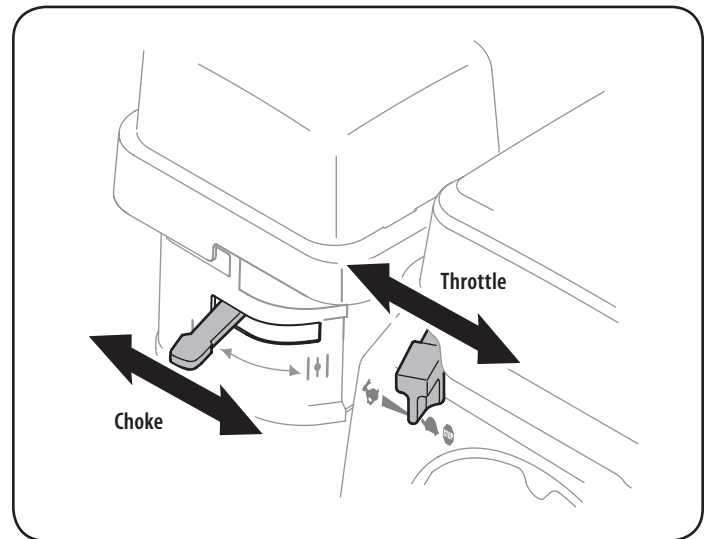

Figure 13
4. Move the choke lever on the engine to CHOKE  position. (A warm engine may not require choking.) See Figure 13.
5. Move throttle control to FAST  position. See Figure 13.